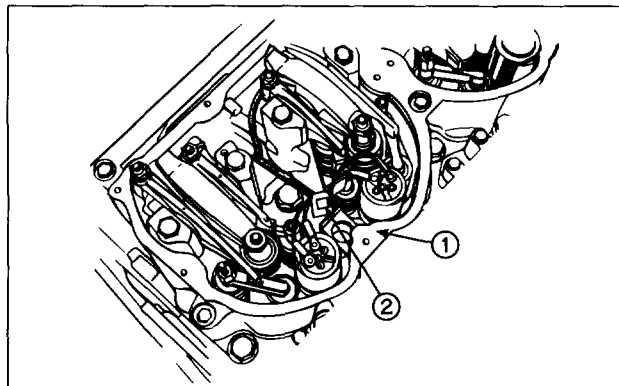

FIG. 2
The illustrations in this manual show the valve cover base in place during engine brake installation. Production engines will be equipped with a cover base (1) that includes three support brackets (2) for containment of the injector wire harnesses (see Fig. 2).